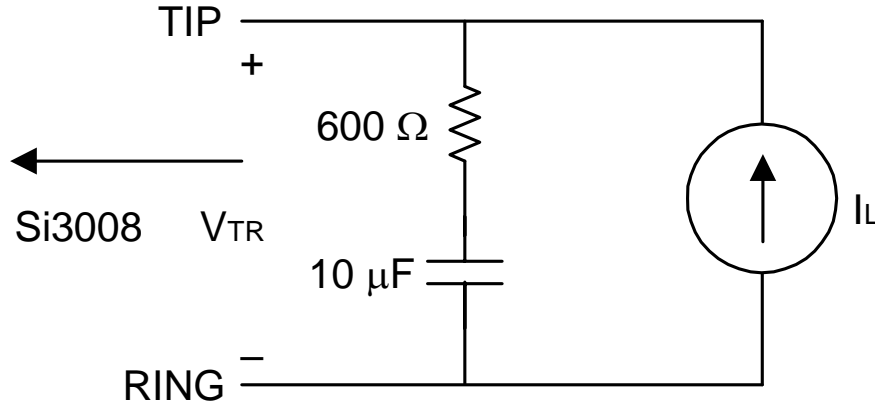

Figure 1. Test Circuit for Loop Characteristics
( $V_D = 3.0$  to  $3.6$  V,  $T_A = 0$  to  $70$  °C, see Figure 1)
1. Measured at TIP and RING with 600  $\Omega$  termination at 1 kHz, as shown in Figure 1.